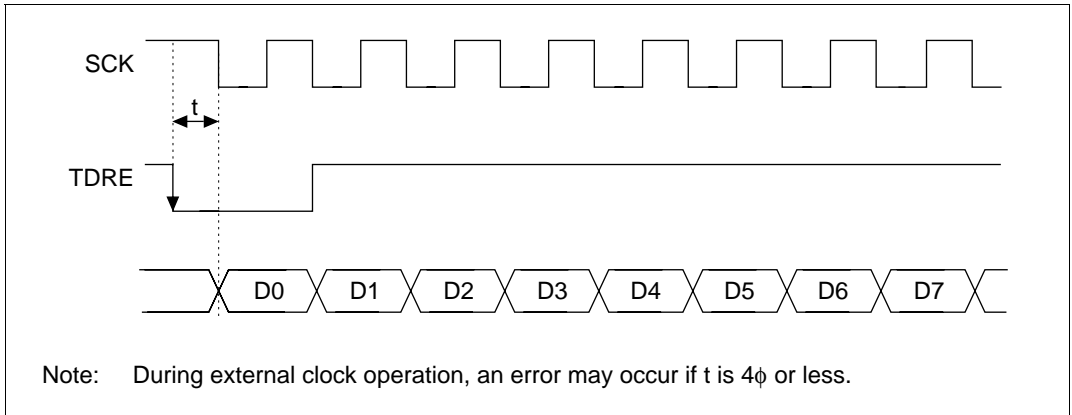

Figure 13.22 Clocked Synchronous Transmitting Example with DMAC
- When using an external clock source for the serial clock, update the TDR with the DMAC, and then after five system clocks or more elapse, input a transmit clock. If a transmit clock is input in the first four system clocks after the TDR is written, an error may occur (figure 13.22).
- Before reading the receive data register (RDR) with the DMAC, select the receive-data-full interrupt of the SCI as a start-up source using the resource select bit (RS) in the channel control register (CHCR).